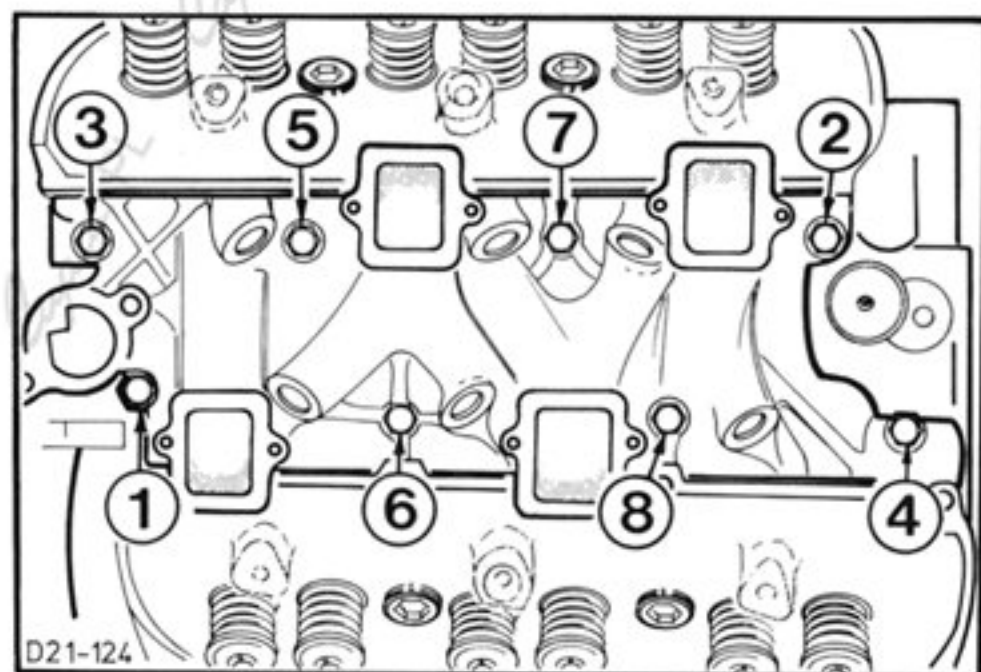

Fig.92. Inlet manifold bolt tightening sequence.
20. Fit inlet manifold and tighten bolts and nuts with specified torque in four stages, as per Fig.92. Fit by-pass hose.